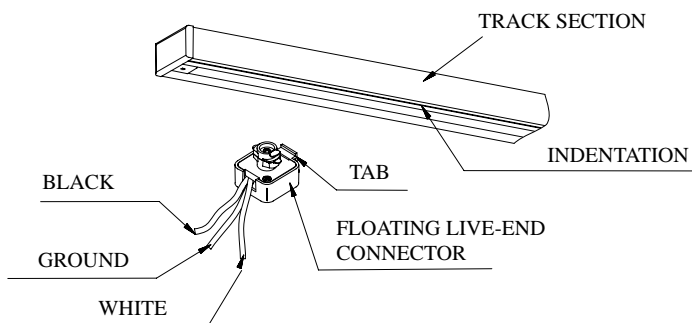

FIG. 2
1. The track section and floating live-end connector must be assembled so that polarity between conductors is maintained. NOTE: The floating live-end connector has a tab on one side and the track has an indentation which runs the length of the track channel (Refer to Figure 2.). Align the floating live-end connector tab with the track indentation and insert the floating live-end connector into the track channel so that the base of connector fits flush against the track twist connector clockwise 1/4 (one quarter) turn so that the connector fits snugly against the track.